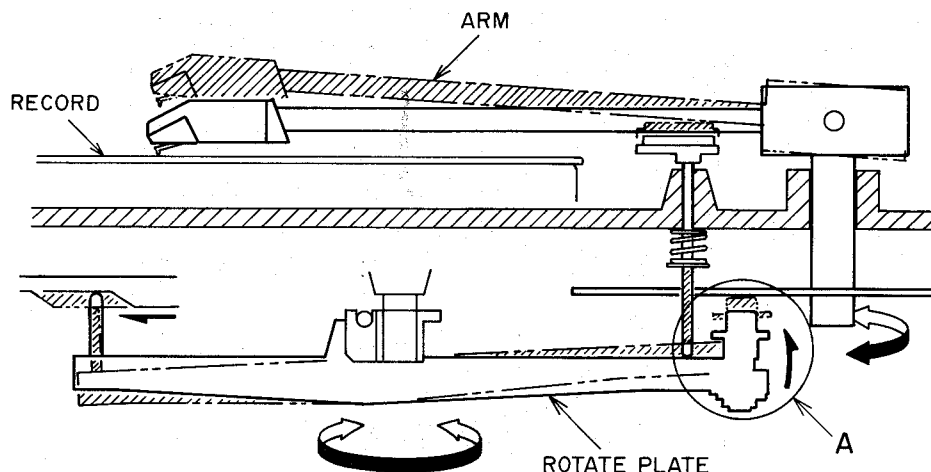

Fig. 5-11
- 8) Arm motion during lead-in and lead-out is started by friction pressure on part A shown in Fig. 5-11 (Loading arm and friction rubber).